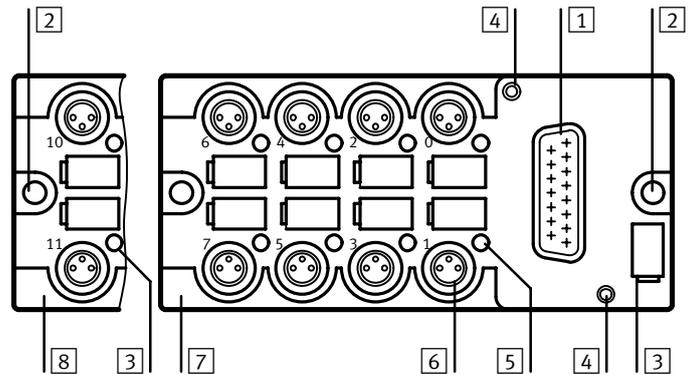

Fig.1
- Tighten the fastening screws (see Fig. 1) only with the tightening torque specified in the "Technical specifications".